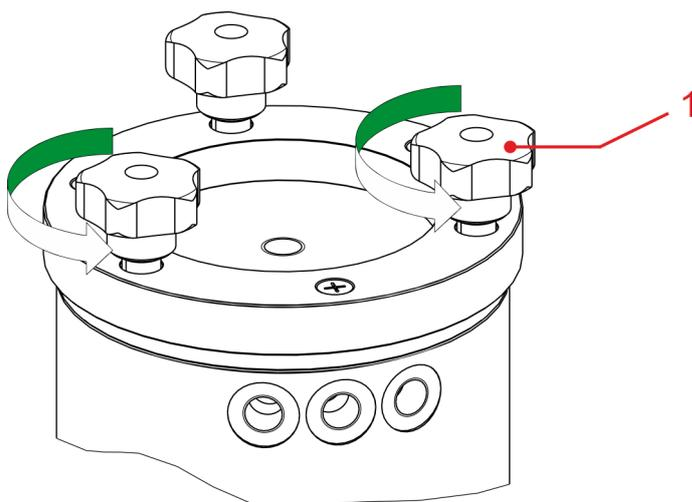

Fig. 5: Opening the lid of the vessel
1. Loosen all the grip nuts (Fig. 5, item 1) by turning each of them twice. Then repeat the procedure after the third grip nut until all the grip nuts have released the lid.
2. The lid of the pressure vessel is raised by loosening the grip nuts (Fig. 5, item 1) (max. three turns) and can be removed by loosening all the grip nuts completely.